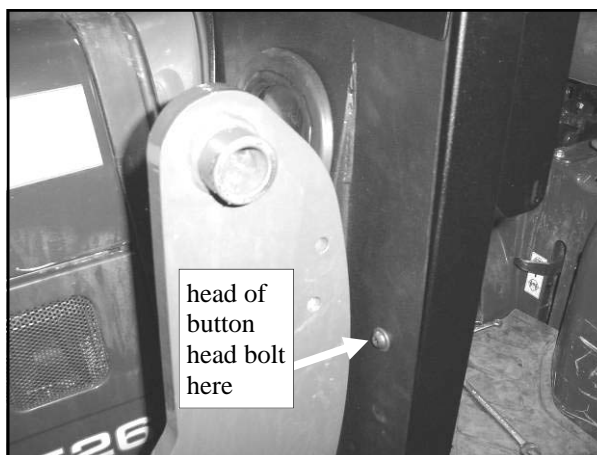

Fig. 4.4 (view from front left side of tractor)
4.4 Per fig. 4.4, attach the left front leg to the side frame with the following hardware: two 5/16" x 1" long button head bolts, two plastic washers, four steel washers, and two locknuts. Do not tighten bolts.